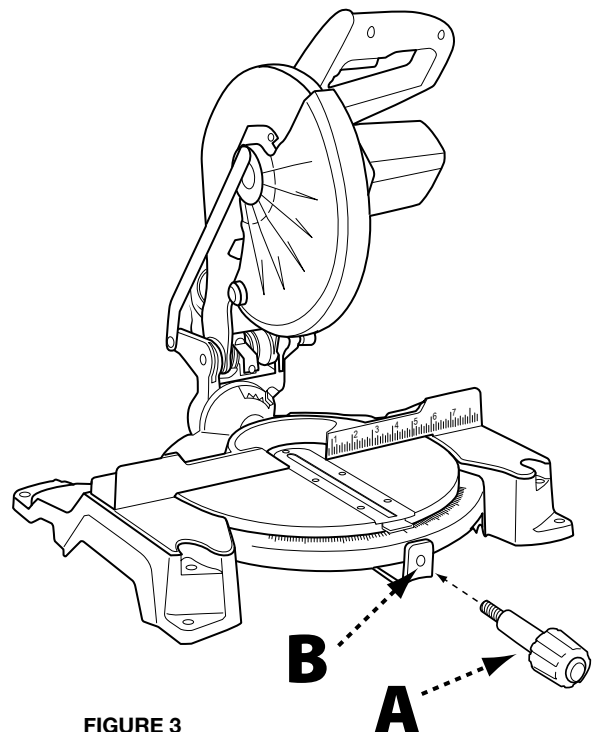

FIGURE 3
4. See Figure 3 and attach the miter lock knob by screwing the end of the miter lock handle (A) into the threaded hole (B) in the control arm. Tighten by rotating the lock knob clockwise.